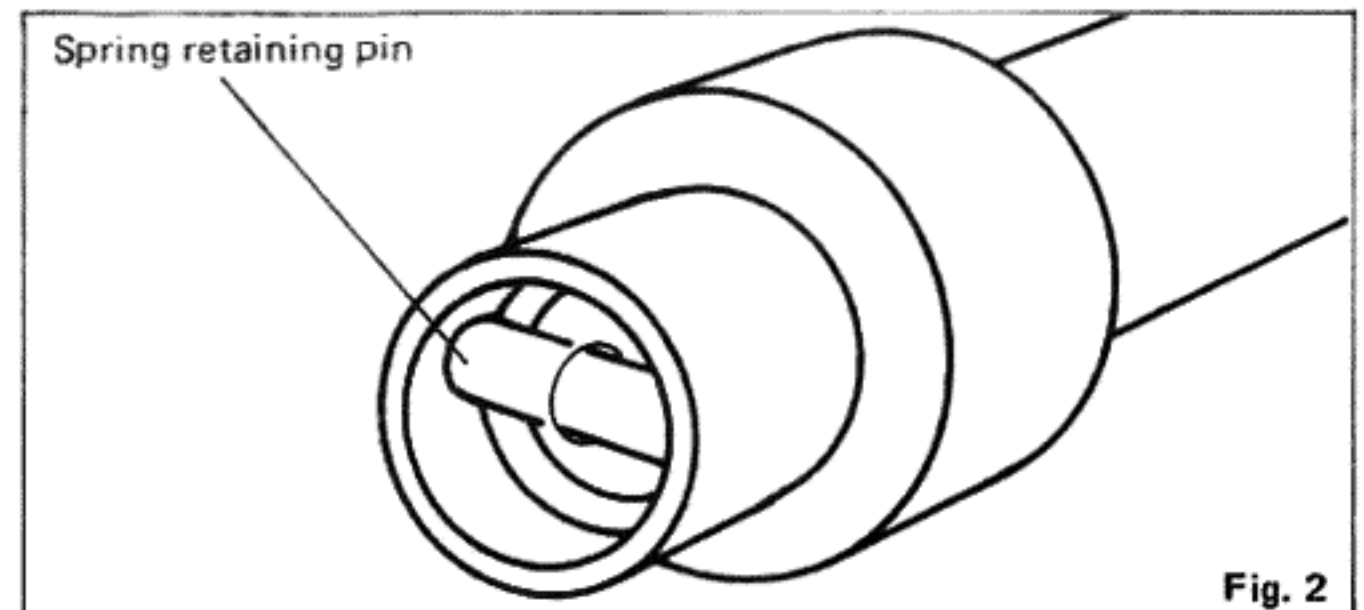

Fig. 2
- 7) Pull the spring retaining pin and withdraw the spring-wire assembly. (fig. 2)